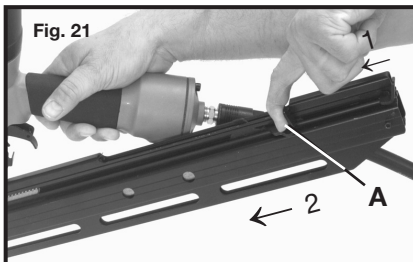

Fig. 21
4. Pull back on the follower release lever (A) Fig. 21, and allow the follower to slide forward against nails.